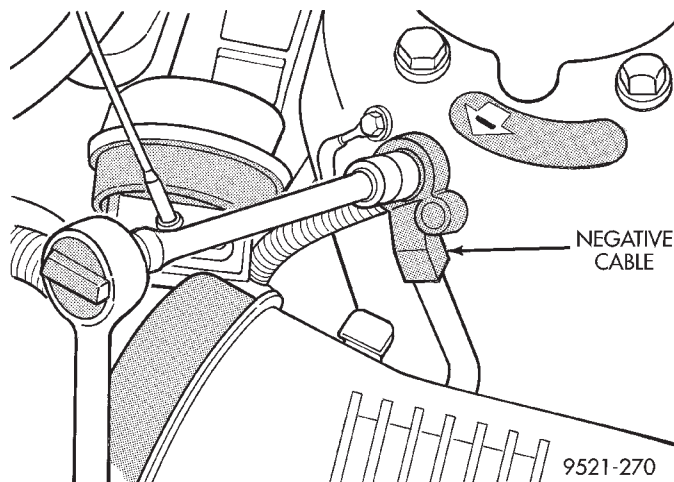

Fig. 39 Negative Cable
(1) Disconnect battery negative cable at left strut tower (Fig. 39).